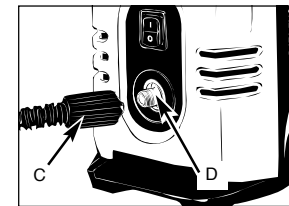

Fig. 3-2B
3. Connect the high pressure hose (C) to high pressure outlet (D). (Fig. 3-2B)
3. Connectez le tuyau haute pression (C) sur la sortie haute pression (D). (Fig. 3-2B)